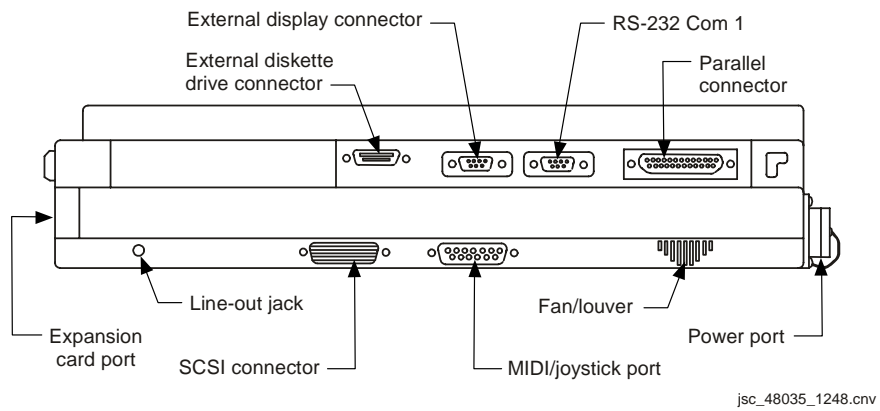

Figure 12-2.- Printer (top view/back view), PGSC (parallel port).
(see fig 12-2)
Connect network cable, T-connector to Printer Network Port (see fig 12-2)
Connect parallel cable between Printer Parallel Port and ProShare PGSC Parallel Port (see fig 12-2)
- Printer 4. Printer pwr – on (see fig 12-2)
| Printer Network Port (see fig 12-2)